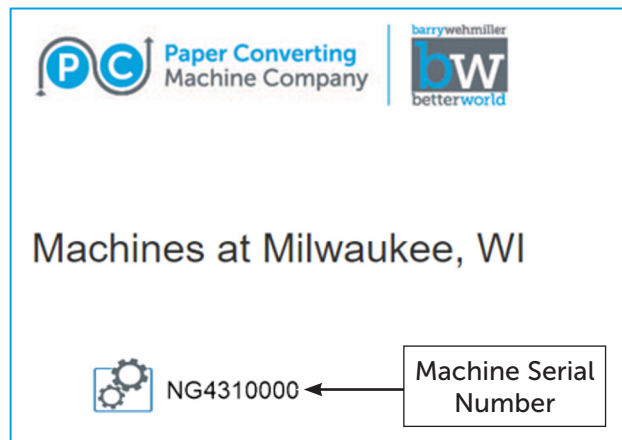

Figure 3: Machine Page
4. Click on the location to open the Machine Page (Figure 3). The Machine Page displays all the machines at that location. The machines are listed by serial number.